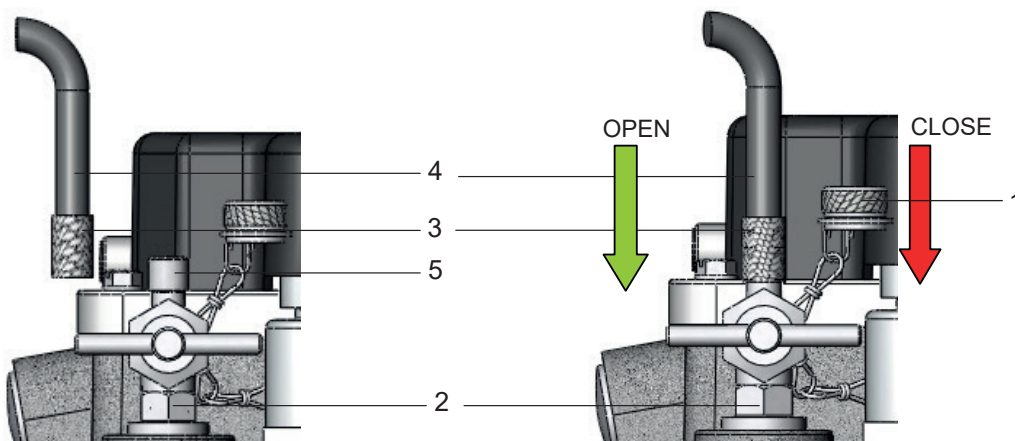

Figure 11 - Testing by means of test pump
- Remove the small cap nut (Fig. 11/ N° 1) from the bleeding valve (Fig. 11/ N° 2)
- Fit the adapter (Fig. 11/ N° 3) of the hose (Fig. 11/ N°4) providing the connection to the test pump on the valve nozzle (Fig. 11/ N° 5)
Proceed as follows (please, see figure 11):
- Fit the adapter (Fig. 11/ N° 3) of the hose (Fig. 11/ N° 4) providing the connection to the test pump on the valve nozzle (Fig. 11/ N° 5)